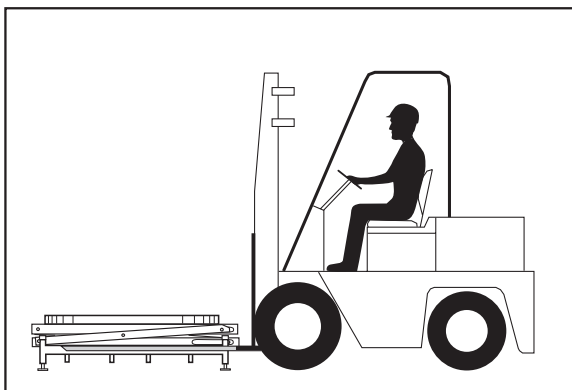

Fig. 9
2. Insert the forks into the pockets in the base frame. See Fig. 9.